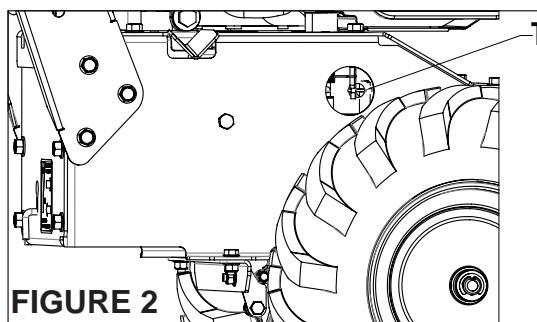

FIGURE 2
2. Reach through the access hole on the right side of the machine with a spring removal tool and remove the transaxle belt tensioning spring **T** to relieve the tension on the transaxle belt. (Figure 2)